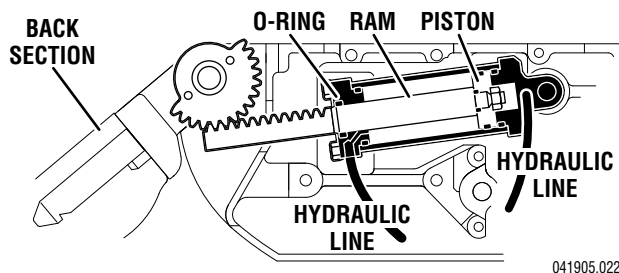

Figure 1-8. Back Section Cylinder
1. Back Section and Leg Section Cylinders - The double action cylinders are closed at one end and have a movable piston with hydraulic fluid on both sides. Connected to this piston is a ram or shaft that exits out of the other end of the cylinder. Through the use of either a gear, or clevis and pin arrangement, this ram is connected to a movable table surface. The movable surface can be moved one way or the other by pumping hydraulic fluid into the cylinder on either side of the piston. Obviously, if oil is pumped into one side of the cylinder, a return path must be provided for the oil on the other side. See figure 1-8.